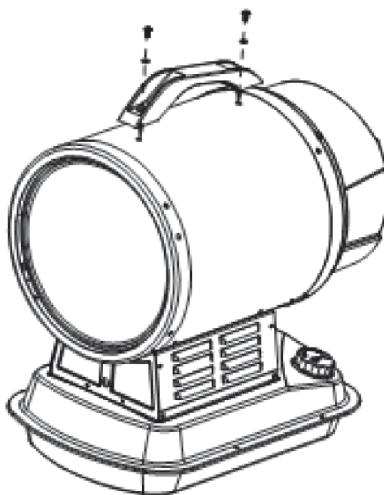

Fig. 1
1. Attach the handle by lining up the holes in the handle with the holes on the upper shell / housing of heater (see Fig.1).